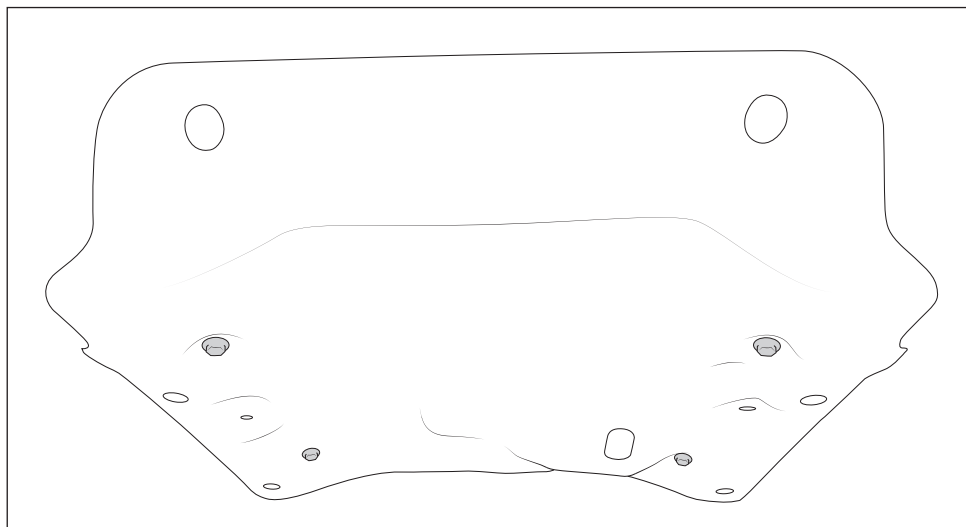

Figure 20
- E. Insert M12x25mm from bottom of skidplate into LCA brackets at all 4 locations and install flange nuts from the top (fig. 20).